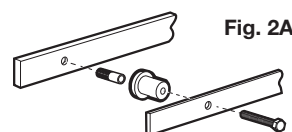

Figure 2A
Drill pilot hole. Insert lag bolt (X) through the first track hole, then place the track spacer (S) through the bolt on back of the track. Install the lag bolt with 1/2" socket ratchet. Do not tighten fully. Swing the track up and use the level to ensure the track is straight. Mark the remaining holes in the track. Drill remaining pilot holes. At the other end of the track from where you installed your first bolt, slide the stopper (T) onto the track that is for the side where the door will be in the closed position. Push it towards the middle of the track. Install a bolt and spacer at this end of the track. Slide the stopper to the other end of the track so it is between the first and second holes in the track. Install the remaining bolts and spacers. Go back and full tighten the first bolt. Slide the remaining stopper onto the other end of the track. Do not set either stopper at this point. Refer to Figures 2A, 2B & 2C.